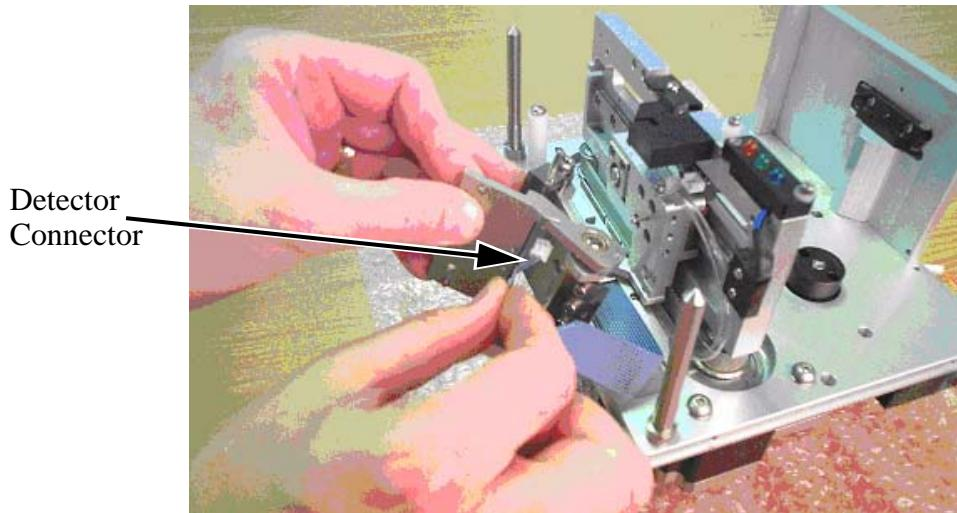

Figure 5-72: Connector Removal
- 7 Carefully spring forward the printhead mounting plate and pull the detector connector through the resulting gap as shown in Figure 5-72, to free the connector and remove the pivot assembly.